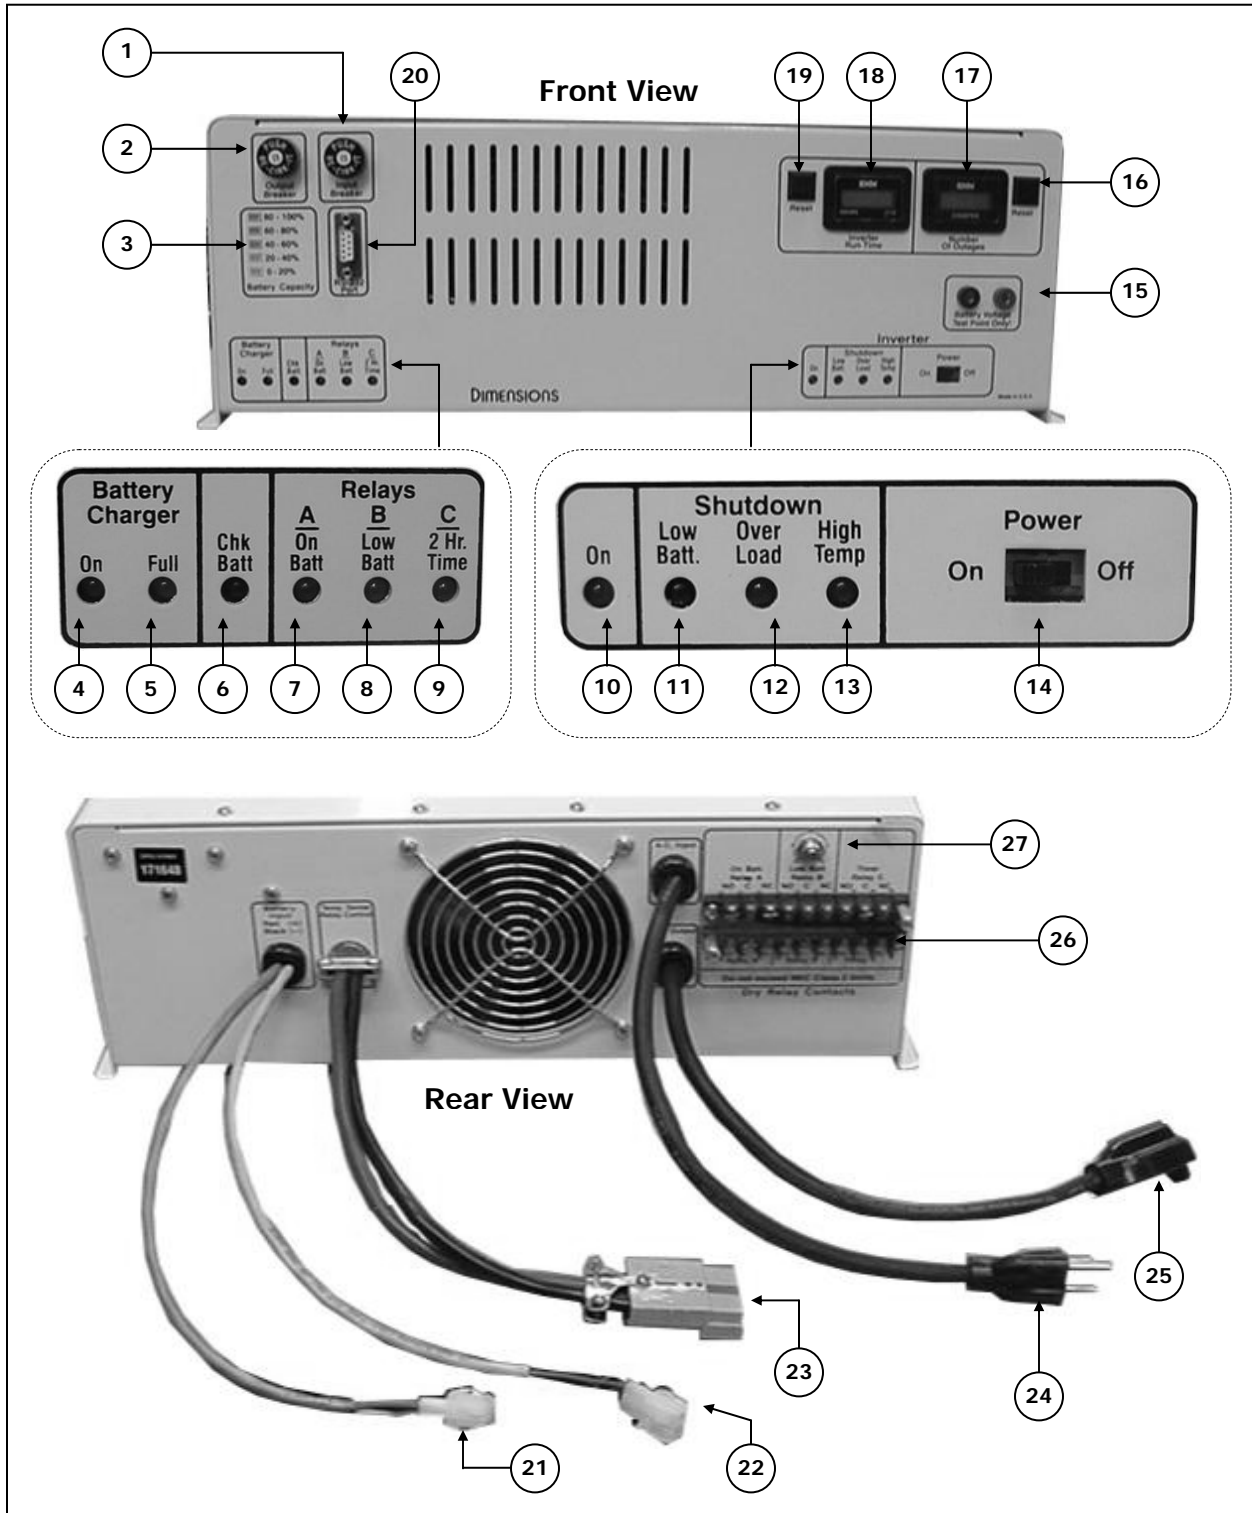

FIGURE 1: BBS Module model ADI-24Y11 physical description front and rear view
- (28) **Bypass – BBS mode Switch (MBPS):** Used to isolate the BBS system from external AC power during routine maintenance.
- (29) **Terminal Connector Board (MBPS):** AC Wiring connector board
- (30) **Terminal Connector Board (30ATR):** AC Wiring connector board
- (31) **Transfer Relay Connector (30ATR):** Connects to item (21) on Figure 1, page 5 to drive the 30-amp relay.
- (32) **A.C. Input Plug Cord (30ATR):** Connects to item (25) on Figure 1, page 5
- (33) **A.C. Output Outlet Cord (30ATR):** Connects to item (24) on Figure 1, page 5
- (34) **AC Outlet Cord:** Connects to item (24) on Figure 1, page 5
- (35) **Indicator Light:** Lights to indicate the switch is in the bypass mode.
- (36) **Terminal Connector Board:** AC Wiring connector board
- (37) **Transfer Relay Connector (30ATR):** Connects to item (21) on Figure 1, page 5 to drive the 30-amp relay.
- (38) **Bypass Switch:** Used to isolate the BBS system from external AC power during routine maintenance.
- (39) **AC Input Plug Cord:** Connects to item (25) on Figure 1, page 5